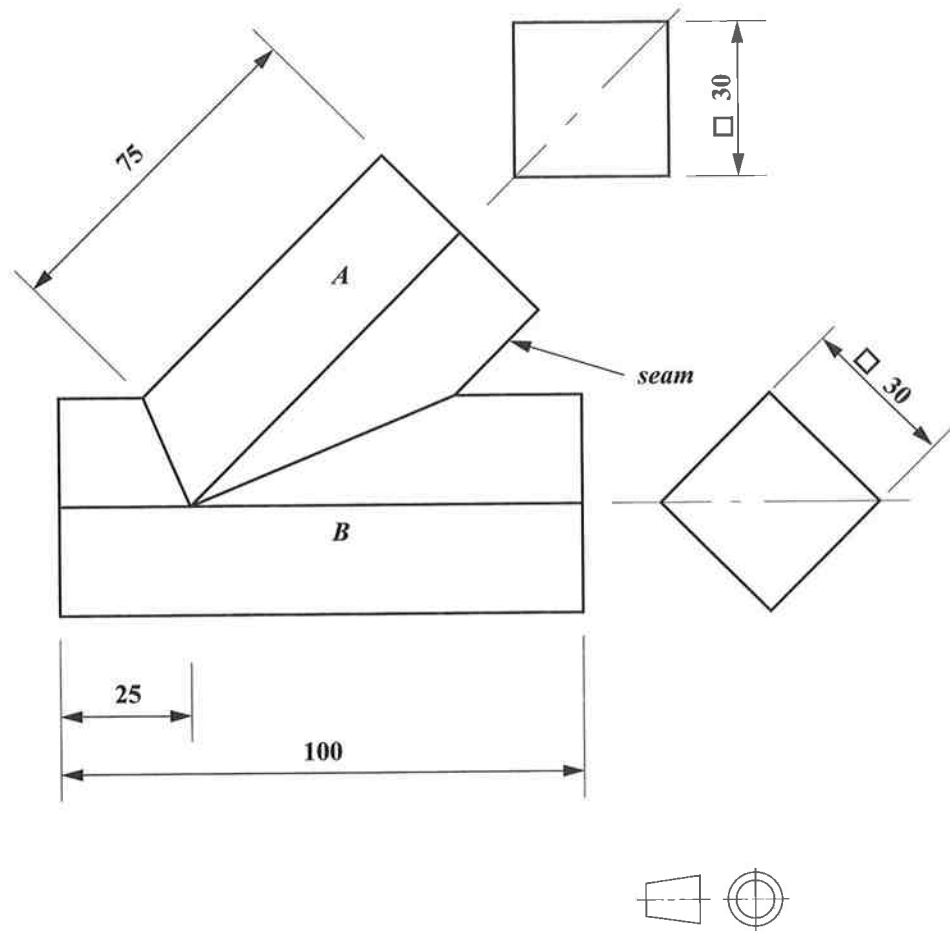

Figure 5
6. **Figure 5** shows the elevation of two square sheet metal pipes 'A' and 'B' intersecting each other at 45°.